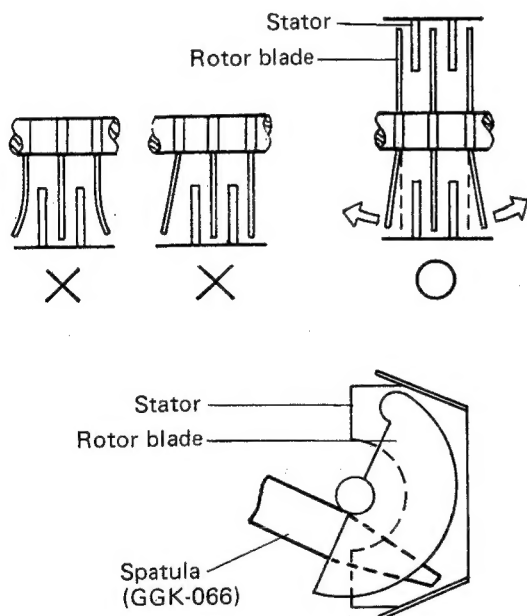

Fig. 8-1 Adjustment of tuning capacitor
- The tuning coils in the FM front end dose not have an adjusting core. Consequently, tracking adjustments at 90MHz are performed by regulating the gap between rotor and stator of the tuning capacitors (VC_1 , VC_3 and VC_5). The expression "adjust VC (VC_1 , VC_3 , VC_5) found in the text means that the two outer rotor blades of each of these tuning capacitors are to be extended outwards with spatula (Part No. GGK-066) as shown in Fig. 8-1.